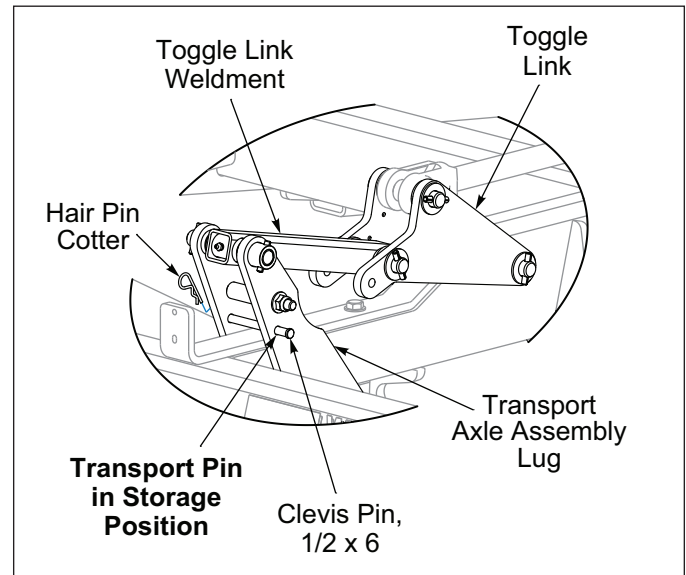

Figure 3-7: Transport Pin in Storage Position
3. Store the Clevis Pin in the Transport Axle Assembly Lugs. Secure with Hair Pin Cotter. **See Figure 3-7.**
2. Remove the stored 1/2 x 6 Clevis Pin and Hair Pin Cotter from the Transport Axle Assembly Lugs. **See Figure 3-7.**